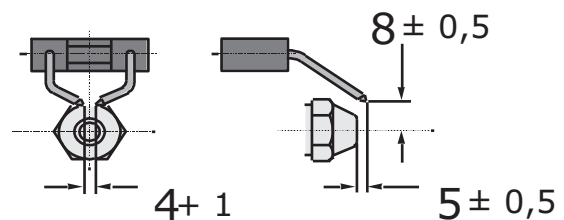

Fig. 506
- Check distance of the electrode tip to the atomizer nozzle (see Fig. 506).
- Check the distance between the electrodes (see Fig. 506).